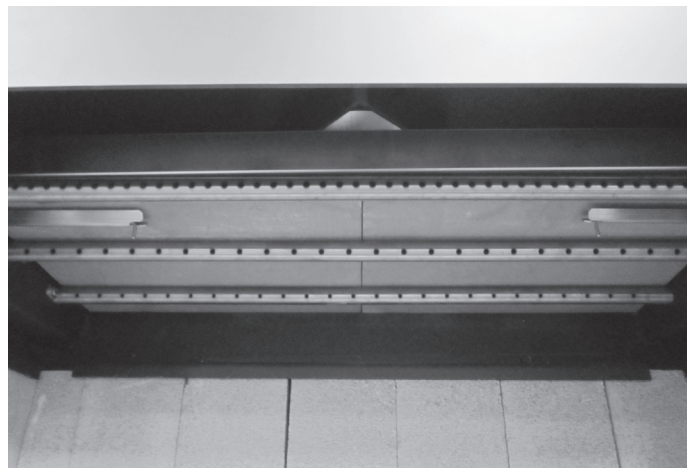

Figure 4.11 Reinstall Baffle Boards
- Reinstall the baffle boards and the baffle protection channel. See Figures 4.11 and 4.12.